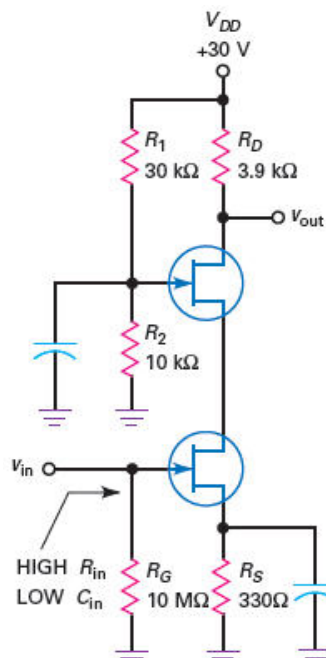

Figure-24 Cascode amplifier
- Figure-24 is an example of a cascode amplifier. It can be shown that the overall voltage gain of this two-FET connection is: